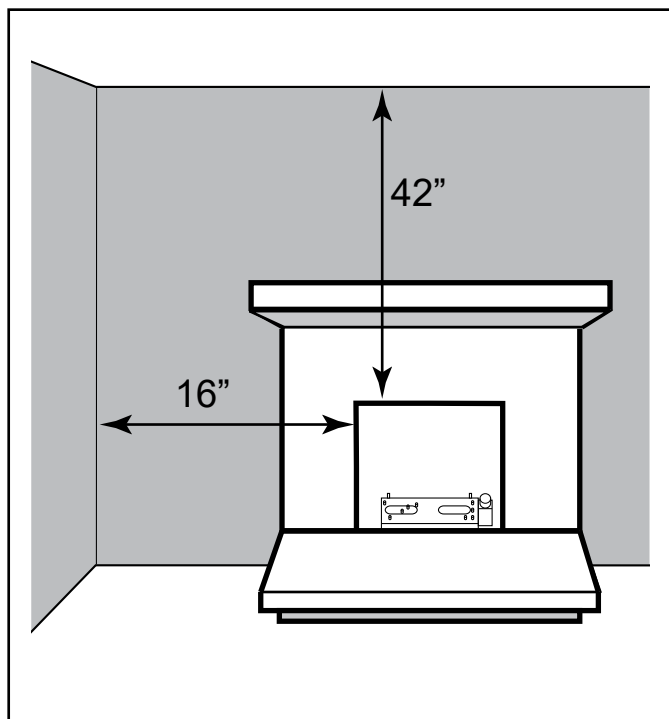

Figure 3.1 - Sidewall and Ceiling Clearances
The dimensions shown in *Figures 3.1 through 3.8* and defined in the fireplace manufacturer's instructions are minimum clearances to maintain when installing this heater. Left and right clearances are determined when facing the front of the heater.
**Sidewall and ceiling clearances:** The sides of the fireplace opening must be **at least 16"** from any combustible wall. The ceiling must be **at least 42"** from the top of the fireplace opening.. See Figure 3.1.